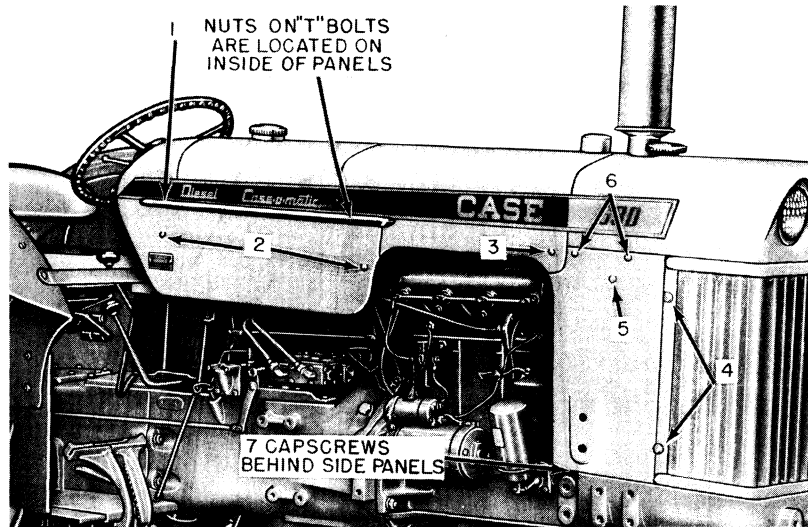

Fig. A-21 Removing Sheet Metal
4. Remove "Phillip" screws as shown in Fig. A-21, then remove hood and both side panels from fuel tank. Side panels are removed to provide easier accessibility to other parts which have to be removed.